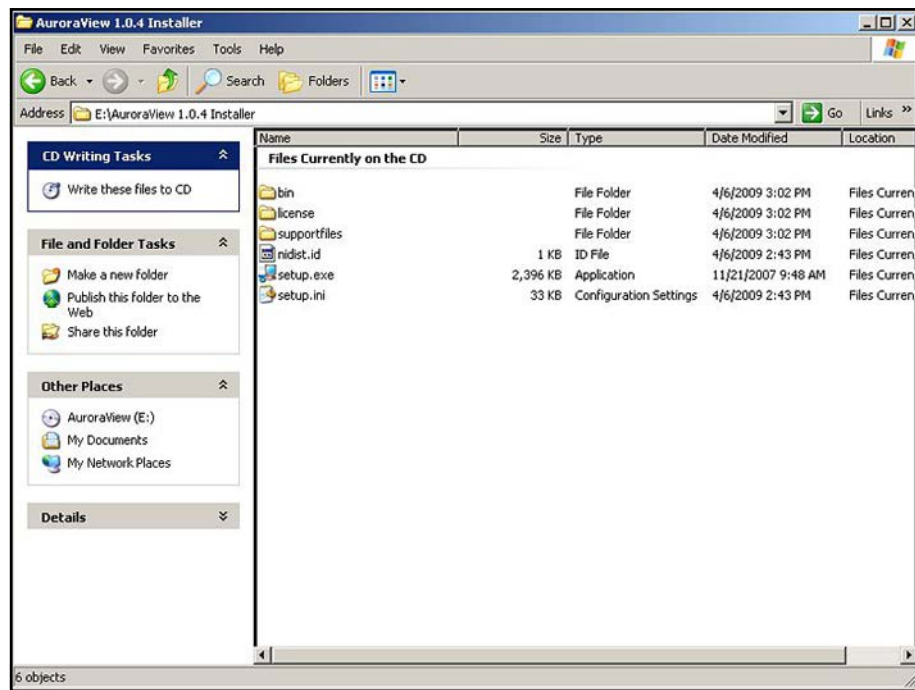

Figure 52: AuroraView Installer
3. Browse to the file named “*setup.exe*” in the root directory of the CD (see *Figure 52* below). Double-click the file to start the installation.